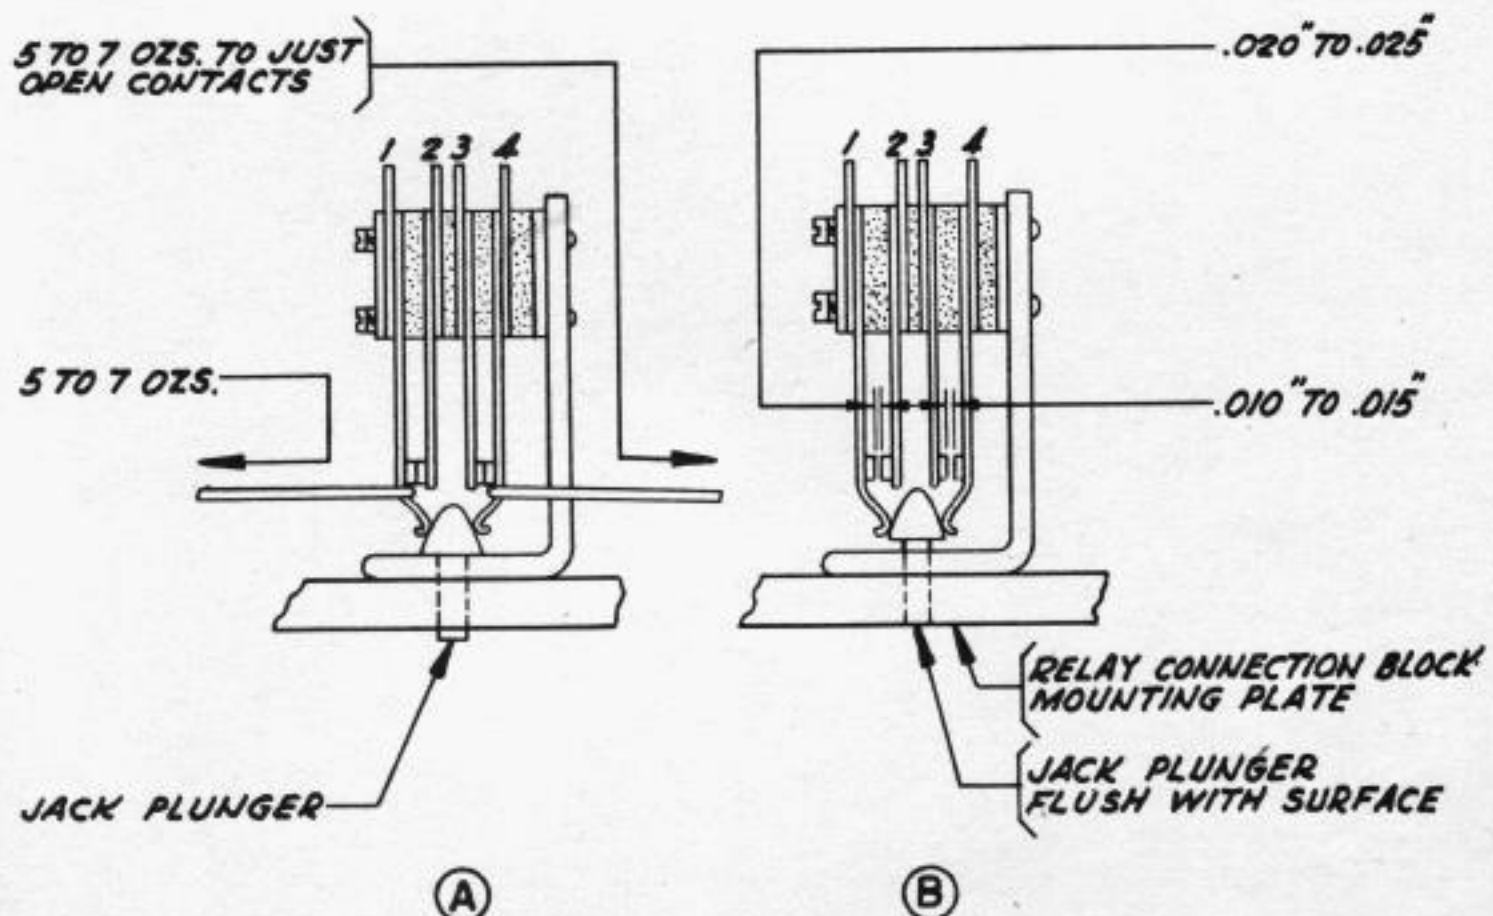

FIGURE 1
A. When the jack plunger is held flush with the relay connection block mounting plate, there should be a gap of .010" to .015" between the contact points of No. 3 and No. 4 contact springs. See Figure 1-B.
B. When the jack plunger is held flush with the relay connection block mounting plate there should be .020" to .025" clearance between the contact points of No. 1 and No. 2 contact springs. See Figure 1-B.
When an 8 oz. scale is hooked to contact springs No. 1 or No. 4 at right angles to the springs it should require a pull of 5 to 7 ozs. to separate the contact points of contact springs No. 1 and 2 or of contact springs No. 3 and 4 respectively. See Figure 1-A.